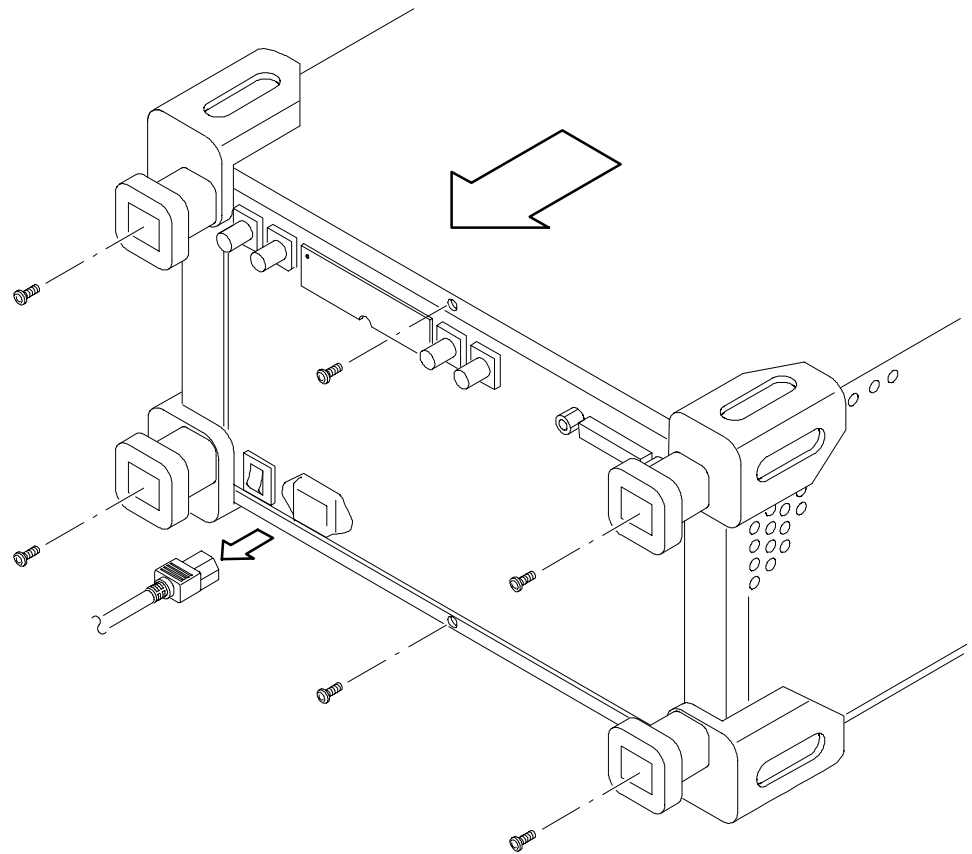

Figure 6-12: Line cord and cabinet removal
2. *Remove the line cord:* Remove the line cord from the rear cover. See Figure 6-12.
3. *Remove the cabinet:* See Figure 6-12.